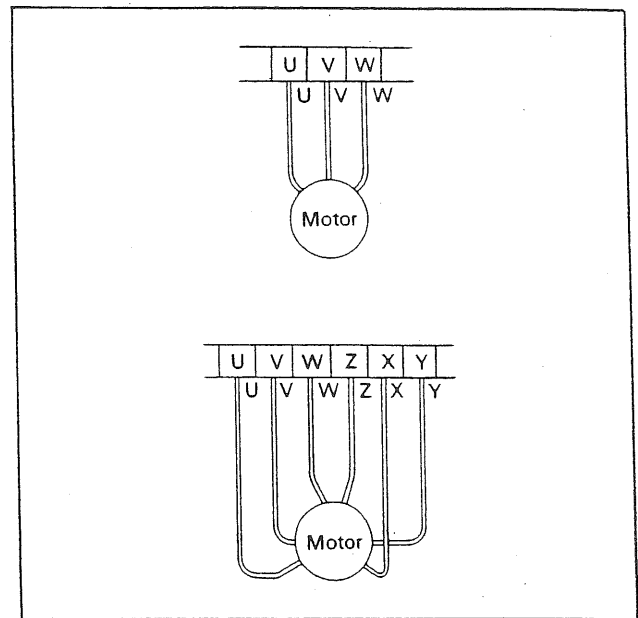

Fig. 3
- a) Wire as indicated for the appropriate start system as shown in Fig. 3.